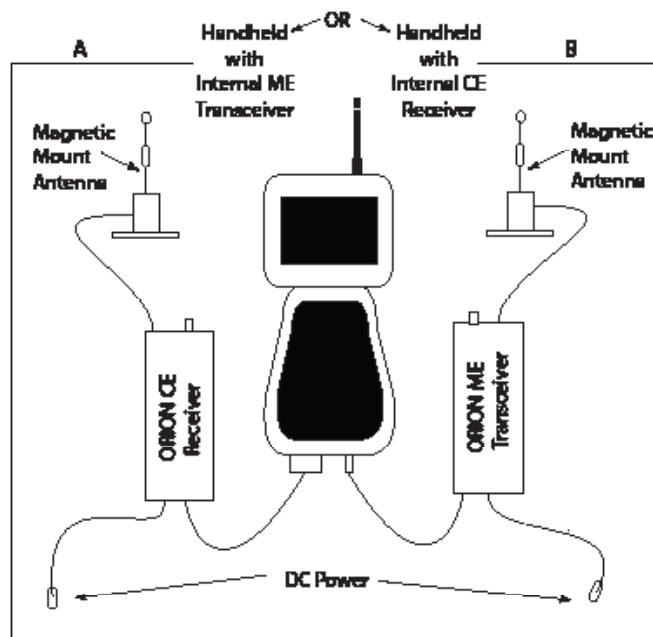

Figure 3: Setup for Reading ORION ME and CE Endpoints
3. **If the handheld has an internal ORION ME transceiver**, connect an ORION CE mobile receiver using the receiver's communication cable. Plug the communication cable into the top of the ORION CE mobile receiver and the 9-pin serial end into the serial port at the bottom of the handheld as shown in the **A** setup (left side) in Figure 3.
If the handheld has an internal ORION CE receiver, connect an ORION ME mobile transceiver using the transceiver's communication cable. Plug the smaller end of the communication cable into the top of the ORION ME mobile transceiver and the larger end into the USB port at the bottom of the handheld as shown in the **B** setup (right side) in Figure 3.